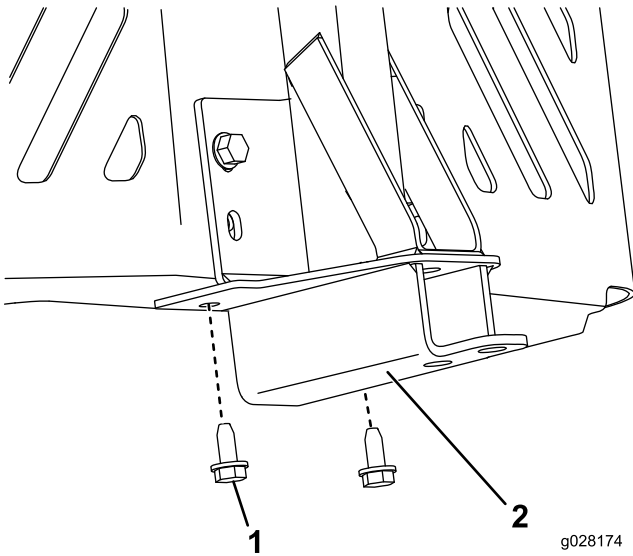

Figure 14
3. Secure the pivot frame to the bottom of the machine frame using 2 self-tapping screws (5/16 x 3/4 inch) as shown in Figure 14.